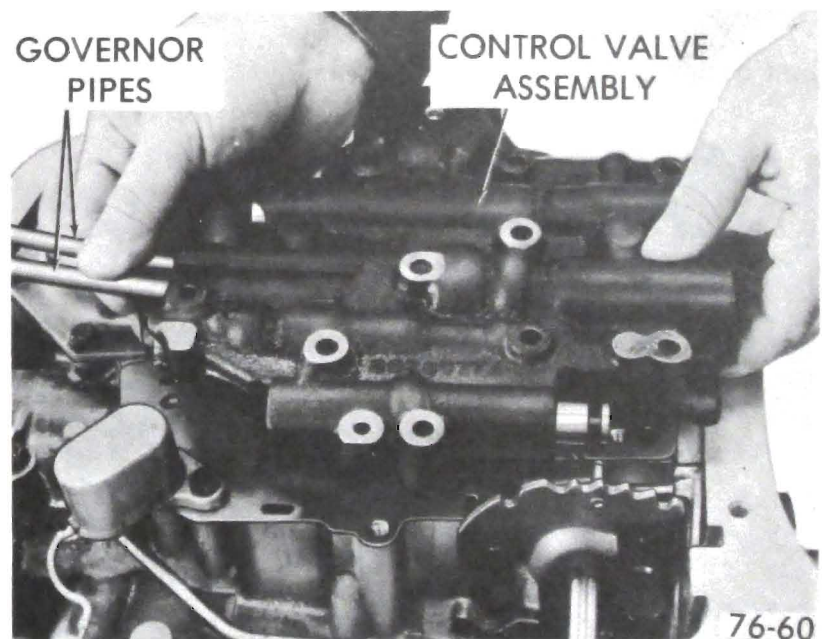

Figure 76-60
4. Remove valve body assembly valve body to spacer plate gasket and governor pipes. Do not allow manual valve to fall out of valve body assembly. See Figure 76-60.